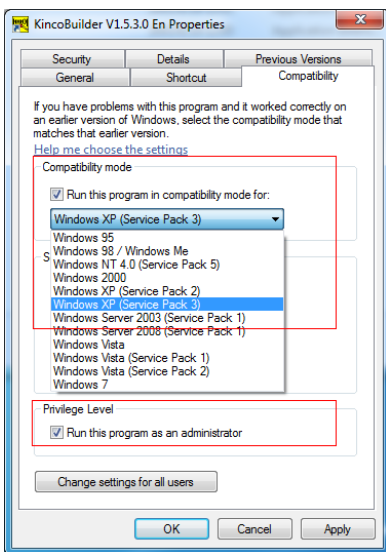

Figure 2-1 “Compatibility Mode” setting
- Click [Compatibility] in [Properties] dialogues, as shown in figure 2-1